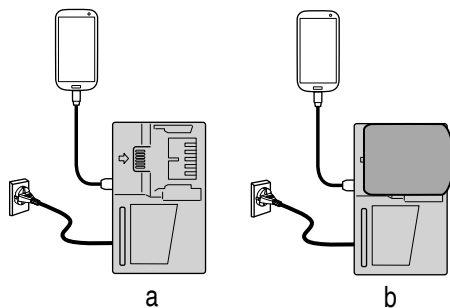

Fig. 7
- Charging a USB device from a electrical outlet. **(Fig. 7-a)**
- Charging a USB device and battery from a electrical outlet. **(Fig. 7-b)**